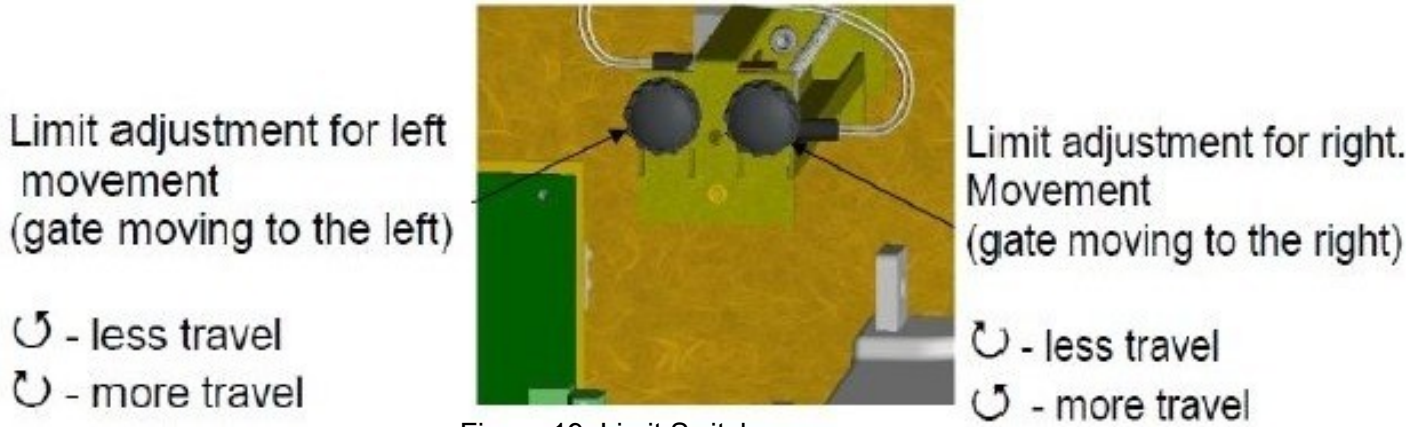
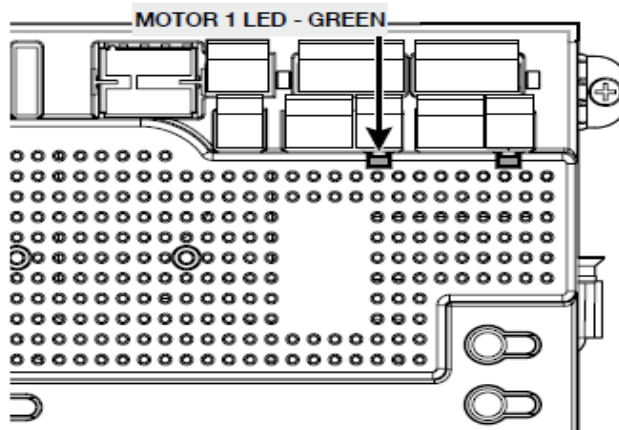
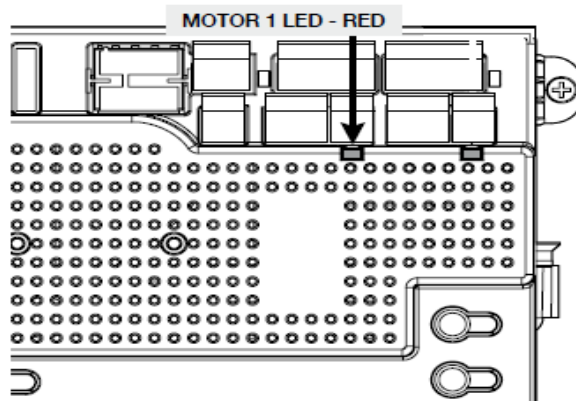

Figure 19: Limit Switch
Figure 20: Green Open LED
Figure 21: Red Closed LED
5. Adjust the Open Limit Switch (See Figure 19) until the GREEN light illuminates on the front of the control board (See Figure 20). The FULLY OPEN limit switch is now set.
7. Adjust the Closed Limit Switch (See Figure 19) until the RED light illuminates on the front of the control board (See Figure 21). The fully CLOSED limit switch is now set.